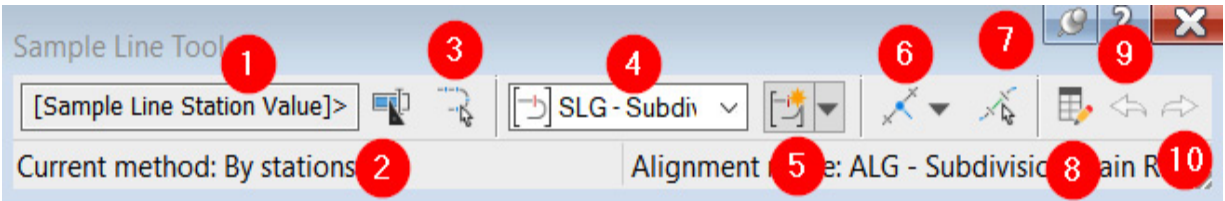

Figure 13.3 – The Sample Line Tools toolbar
**Line Tools** toolbar. Running from left to right, we have the following tools available to us (also shown in *Figure 13.3*):